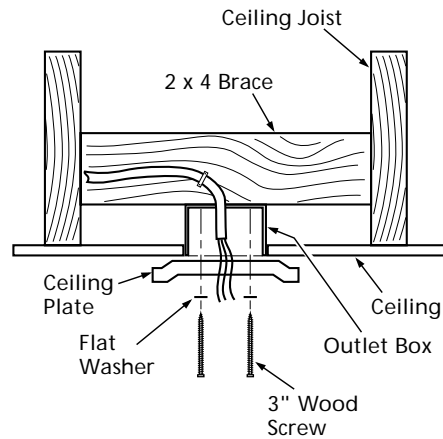

Figure 3c - Attaching Ceiling Plate to 2 x 4 Brace
5. Place a flat washer on each of the two 3" screws and pass the screws through the slotted holes in the ceiling plate as shown in Figure 3c.